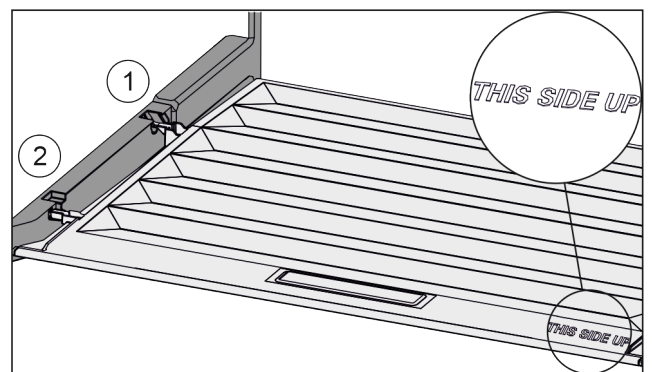

Fig. 74
- Insert the lip of the cover over the opening of the rear bracket Fig. 74 (1) and click into place Fig. 74 (2).